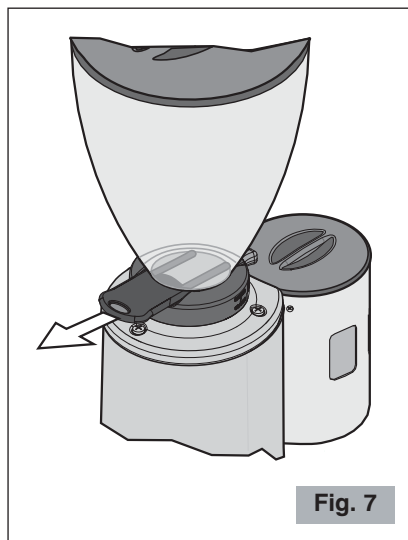

Fig. 7
**Make sure that shutter is completely open (to the last click) (see Fig. 7).**